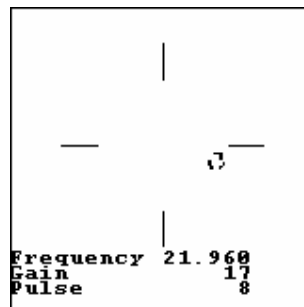

Fig. 25
5. **Phase analyzer** submode is used to find the optimal frequency for the signal driven to the transducer that permits to distinguish maximally the flaw free zone from the defective zone on the surface under test using the signal's phase deviation as informative parameter. To enter **Phase analyzer** submode, select the string **Phase Analyser** using UP key, place the transducer on the flaw containing area of the specimen TS-1, press and release ENTER key (4.11, **Phase analyzer** paragraph). In one-two seconds a straight horizontal line appears on the screen. Place the transducer on the flaw free area, press and release ENTER key. In one-two seconds the phase deviation diagram appears on screen. A vertical marker indicates the frequency, on which the deviation is maximal. This frequency will be used with current tuning. To exit the **Phase analyzer** submode press BREAK key. **Oscilloscope** submode is used to select the **gain, pulse, frequency** parameters' values and to set the processing interval of the received signal using the **left marker** and the **right marker** parameters. To enter the **Oscilloscope** submode, use the Up, Down keys to set the menu marker on it and press the Enter key. To exit from it press the Break key.
7. When the optimal parameters' values are selected, put the transducer on the flaw free area and press Shift key. The device enters the forming admissible impedance zone submode (Fig. 25).